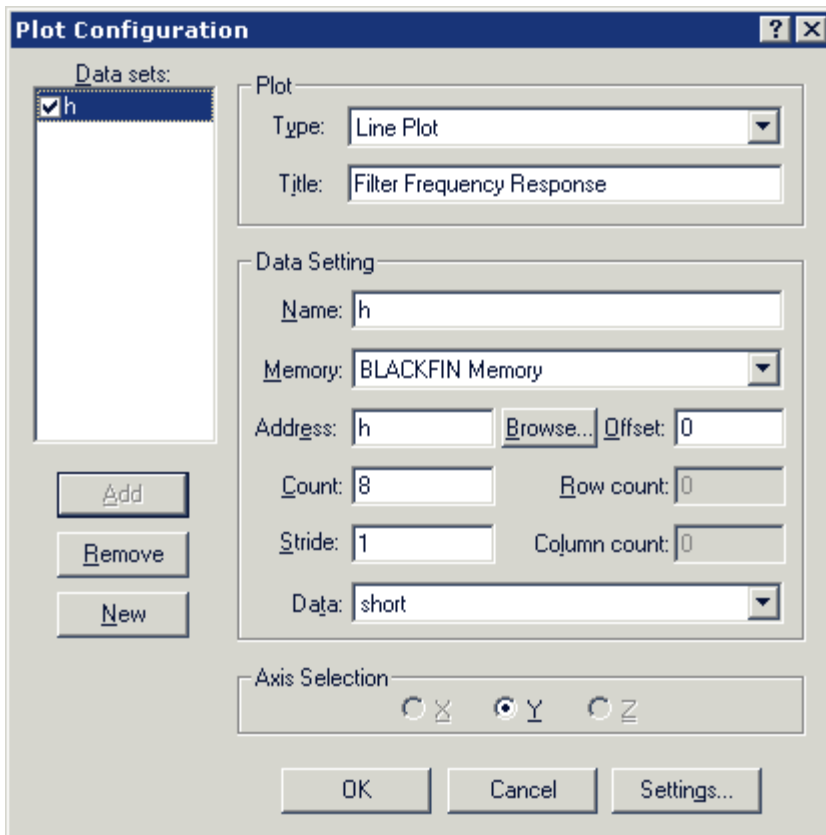

Figure 2-31. Filter Frequency Response Data Set
2. Set up the Filter Frequency Response plot by completing the **Plot** and **Data Setting** group boxes as shown in Figure 2-31.